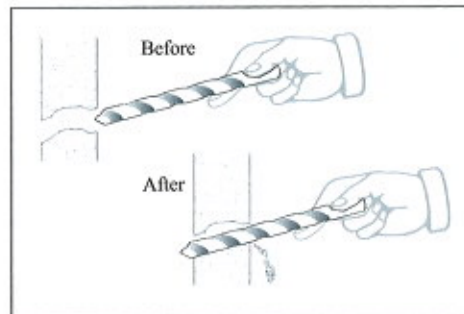

Figure 4. Removing Foam
1. Insert the tip of the 3/8 inch drill bit into the hole in the wall where you removed the drain tube. Refer to Figure 4.